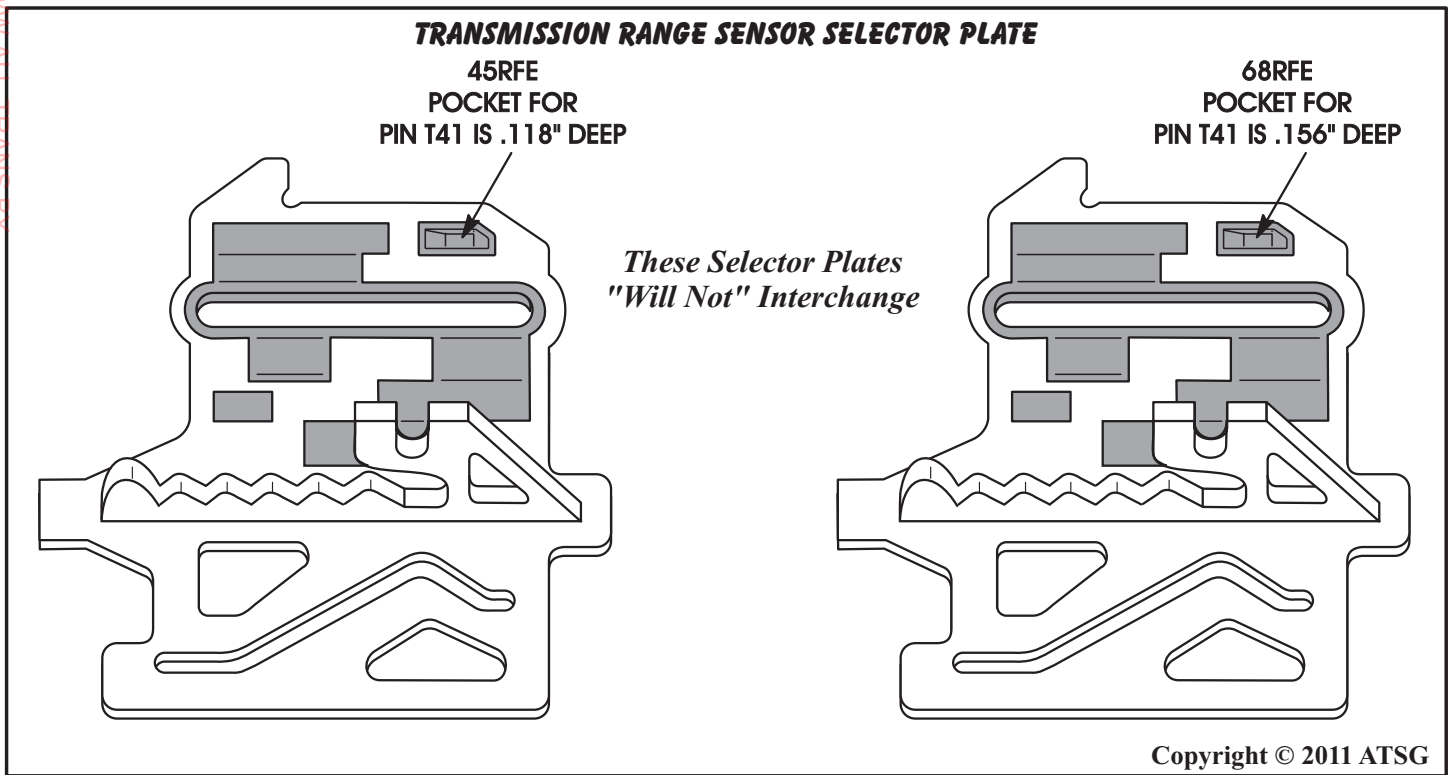

Figure 129
*Note: The Transmission Range Selector Plate will not interchange with the 45RFE plate, as shown in Figure 129.*